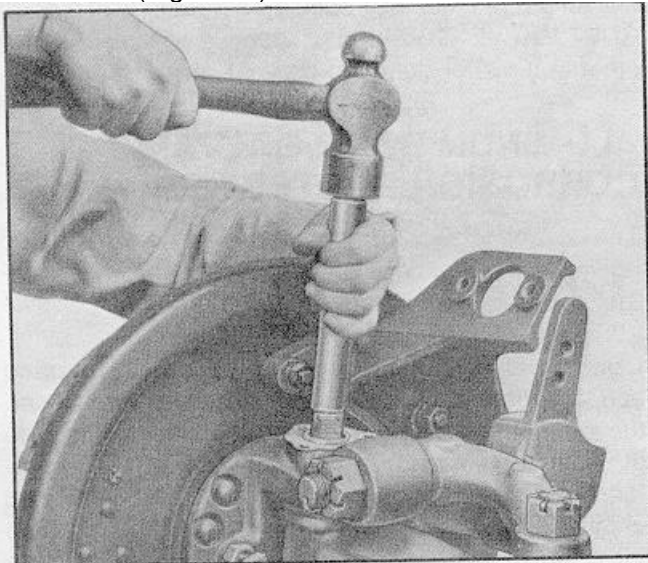

Figure 10
- E. Drive knuckle pin out by use of drift on upper end. Bronze drift should be used to avoid any damage to threads (Figure 10).